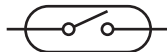

Fig. 7.1
- (b) Name the type of switch shown in Fig. 7.1.
- (c) Describe how the switch in Fig. 7.1 is operated.